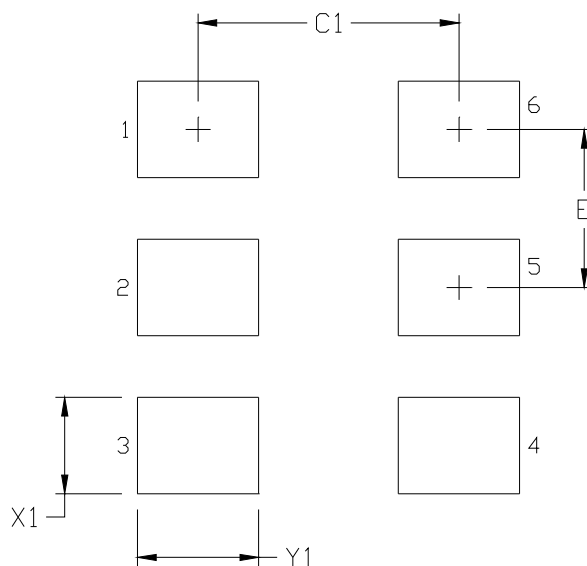

Figure 4. Si530/531 PCB Land Pattern
Figure 4 illustrates the 6-pin PCB land pattern for the Si530/531. Table 14 lists the values for the dimensions shown in the illustration.
- Revised Figure 4 and Table 14 on page 10 to reflect the recommended PCB land pattern.